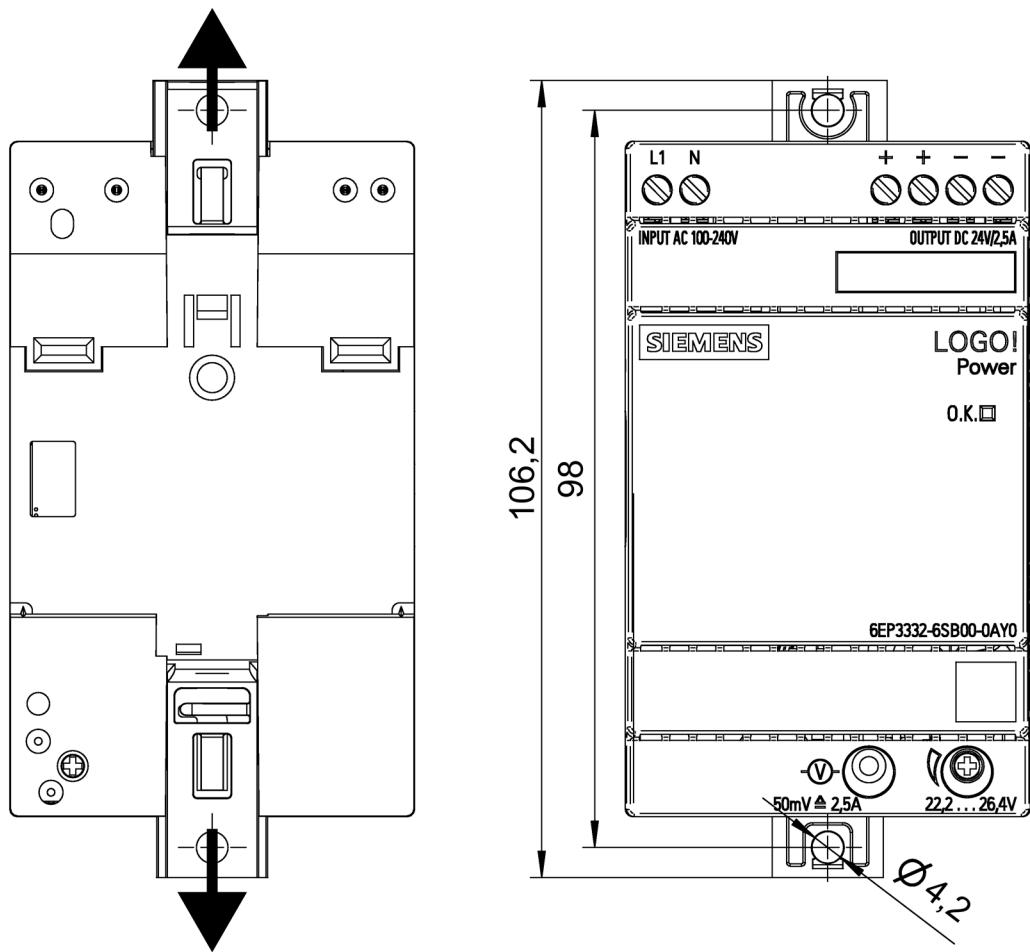

Figure 3-2 Wall mounting
To mount on a flat surface, place the device with the sliders ① extended over the holes as shown in Fig. 3-2, and fix in place using suitable screws.